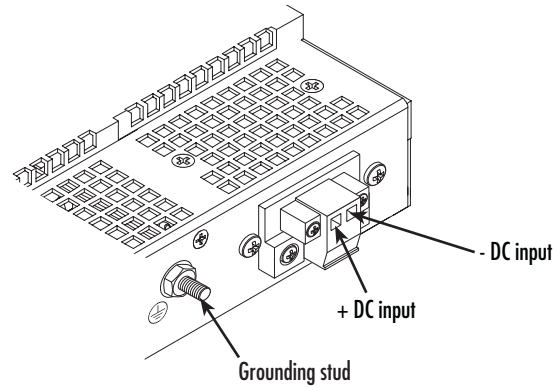

Figure 13. DC connector, -DC and +DC input view
**Do not connect the power cables to the DC power source at this time.** For the DC power source, the IpChannel Bank is equipped with a two-position, screw-down terminal block (see figure 13).